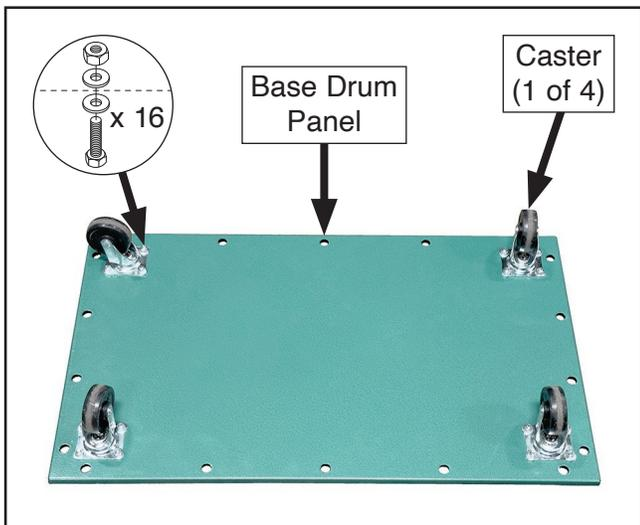

Figure 47. Casters attached to base drum panel.
36. Attach (4) swivel casters to (1) base drum panel with (16) $\frac{5}{16}$ "-18 x $\frac{5}{8}$ " hex bolts, (32) $\frac{5}{16}$ " flat washers, and (16) $\frac{5}{16}$ "-18 hex nuts (see **Figure 47**).